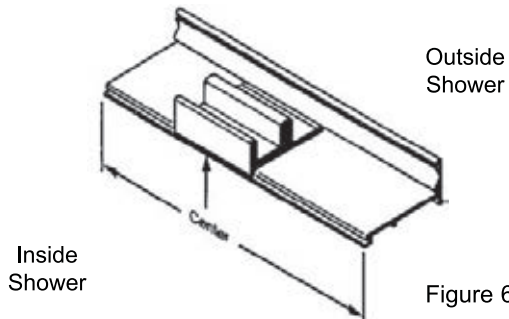

Figure 6
- C. Center the Guide (#4) on the pencil mark you made in step B. (See Figure 6).